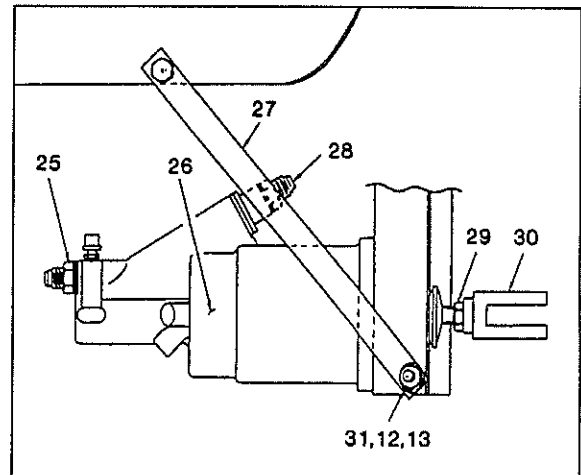

FIGURE 4: SERVO UNIT MOUNTING.
20. Reinstall the three bolts, (previously removed, step 2), on top of transmission making sure to position brace (27) as illustrated in figures 4 and 5. Apply removable threadlocker (not supplied with kit) on bolt threads. Fix the brace other extremity to servo unit support using 3/8"-16 x 1" bolt (31), flat washer (12) and self-locking nut (13).